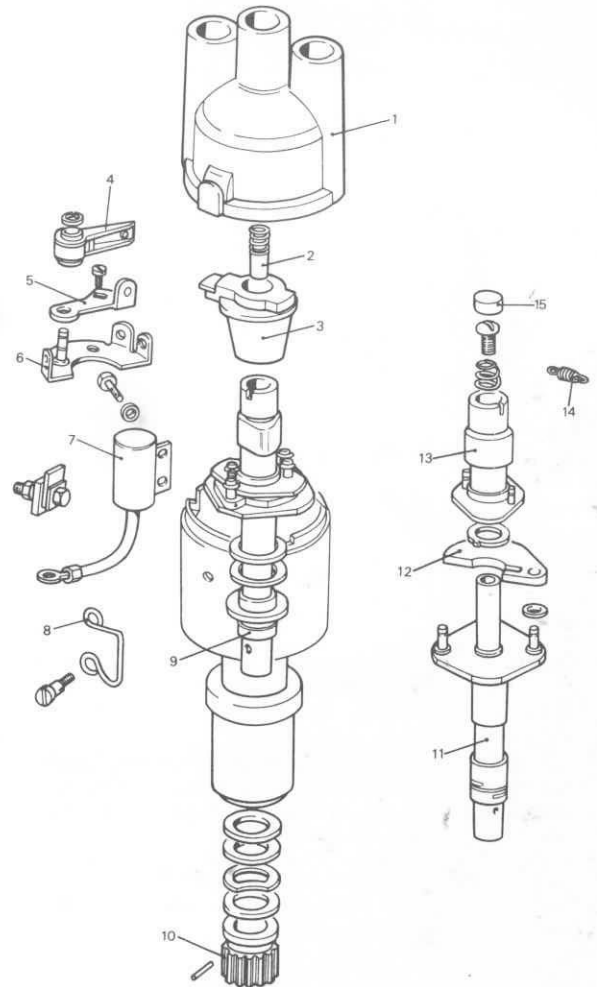

FIG 3:2 Components of the distributor
- 2 Disconnect the cable from the low-tension terminal on the side of the distributor body. Mark position of distributor on support. Release the distributor retaining nut and washer from the distributor retaining plate and carefully lift away the distributor. Now refer to FIG 3:2.
- Key to Fig 3:2**